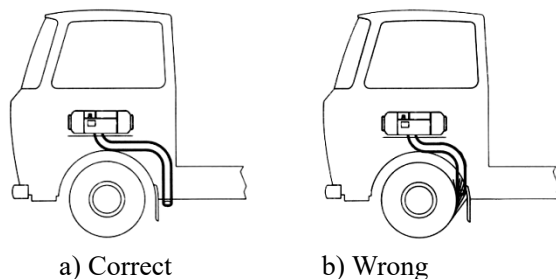

Fig.25
4.6.5 Arrangement of the pipes shall protect the pipe openings from blocking by slurry, rain and snow or other dirt. (Fig. 25)